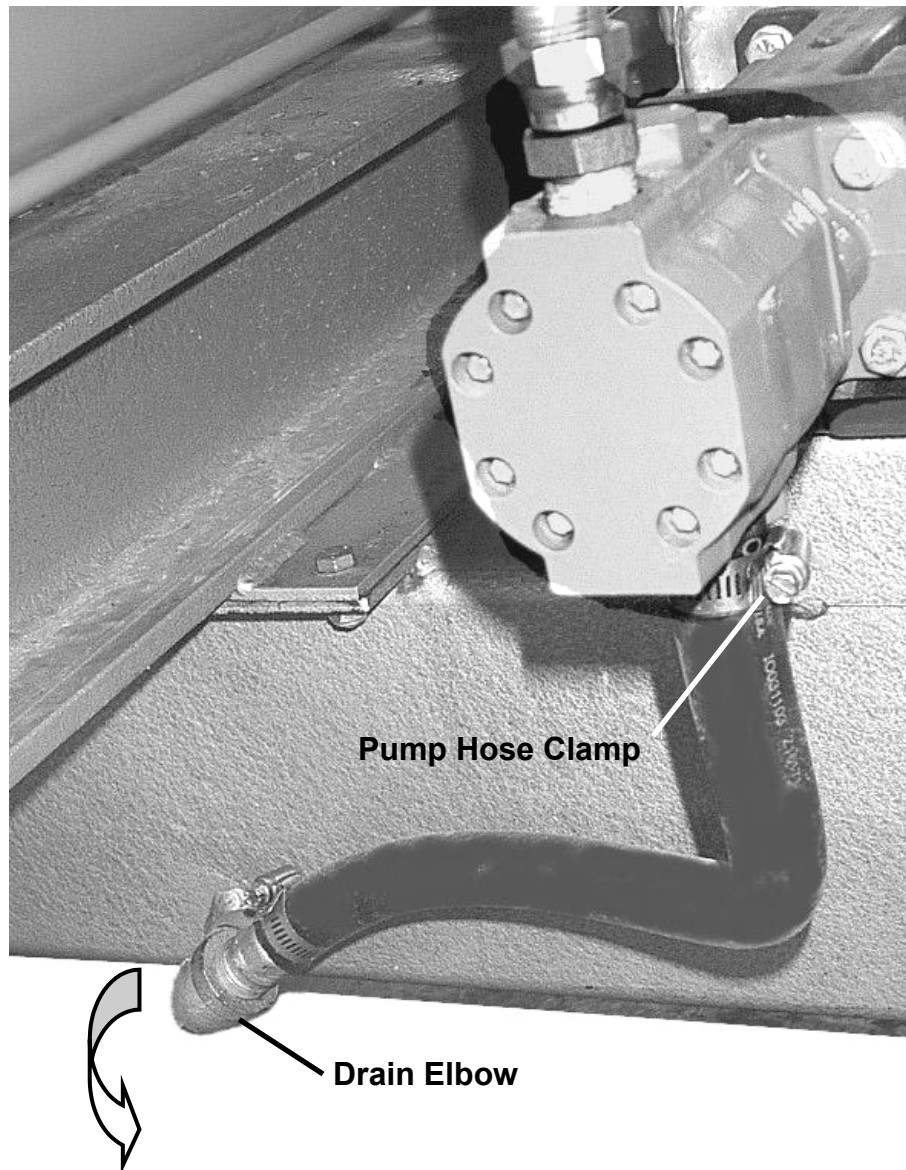

Figure 24
3. Place a suitable container under the drain elbow of the hydraulic fluid tank (*Figure 24*).
4. Loosen the pump hose clamp from the pump hose (*Figure 24*), at the pump end, using the screwdriver. Then remove the hose from the nipple.
5. While holding the hose up, turn the tank drain elbow 180° counterclockwise using the pipe wrench and then lower the hose into the fluid container allowing the fluid in the tank to drain completely (*Figure 24*).